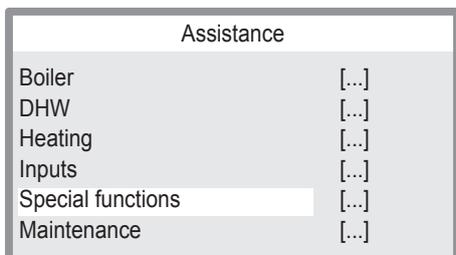

Figure 11.14
- 7 Press button "D" (Figure 11.11) to access the selected menu (Figure 11.14).